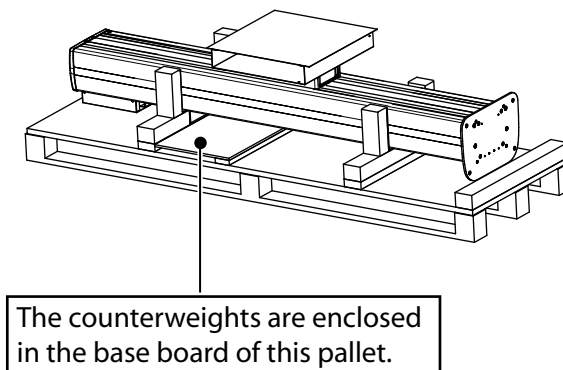

Fig. 4-63 *Lifting Wallstand off the pallet*
5. With help from at least two persons, lift the Wallstand, as indicated in the figure below. Lift the Wallstand off the pallet, see Fig. 4-63 *Lifting Wallstand off the pallet*.